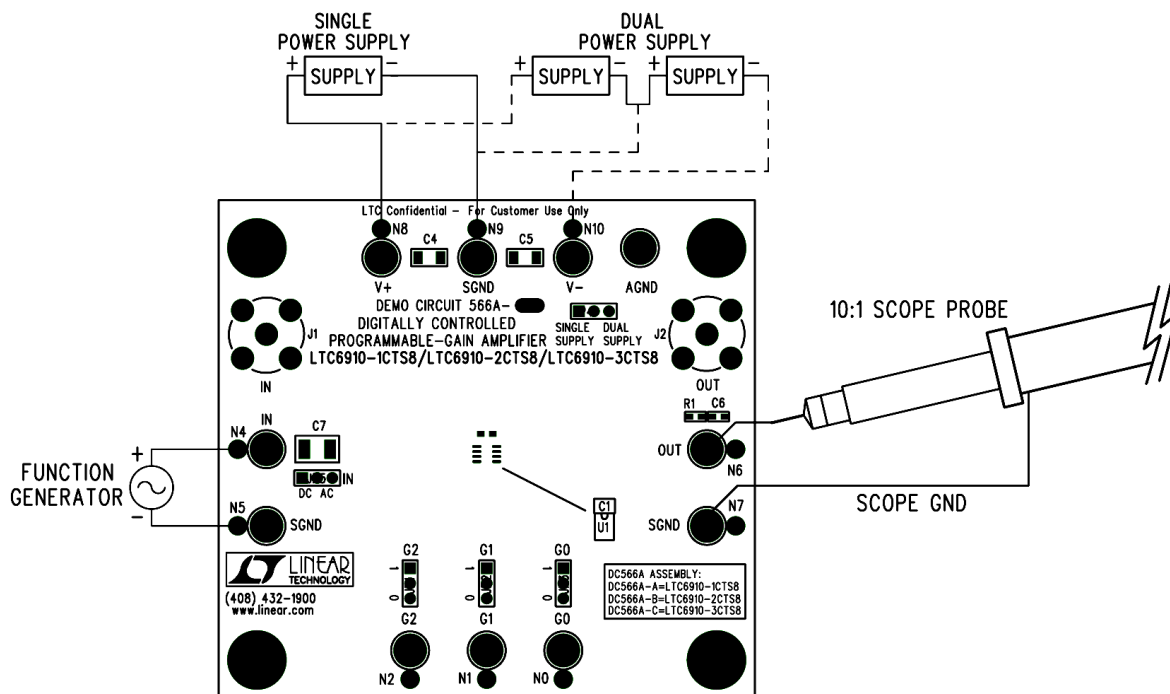

Figure 4. Proper Measurement Equipment Setup
The 566 family of Demonstration boards allow for easy evaluation of the performance of the LTC6910 series of PGAs. Refer to Figure 4 for proper measurement equipment setup and follow the procedure given below:
- Turn on the power supply and connect the signal generator to the IN BNC, or turrets as shown in Figure 4.